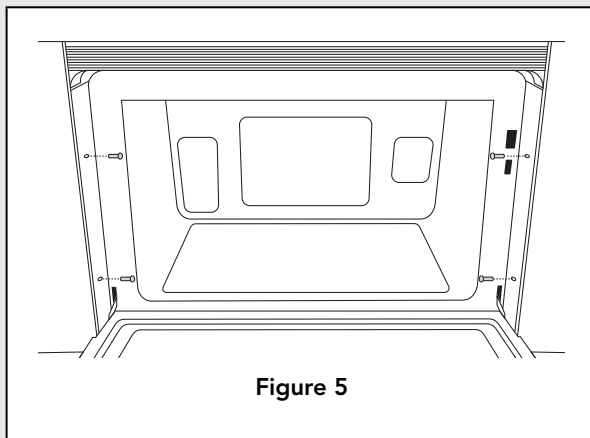
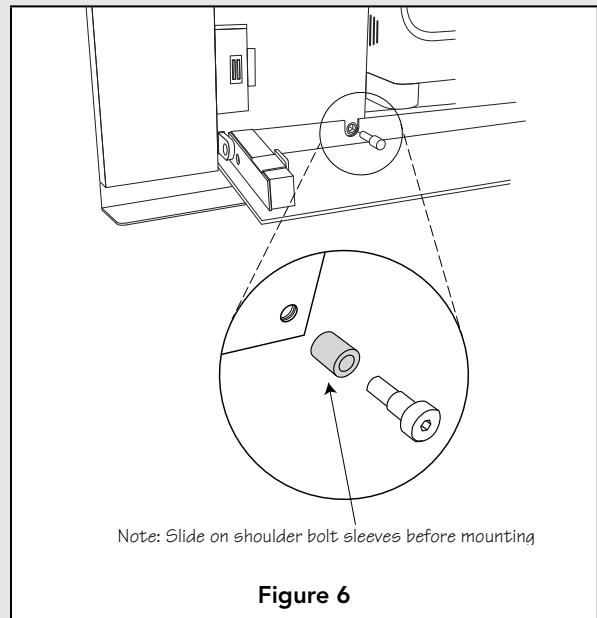

Figure 5
Figure 6
5. Open the oven door and insert the 4 mounting bolts supplied. Do not completely tighten. See Figure 5.
6. Open the drip tray door and insert the 2 shoulder bolts supplied. See Figure 6. Do not completely tighten.
7. Check alignment of oven then tighten the 4 mounting bolts in Figure 5 and the 2 shoulder bolts in Figure 6 to secure oven.